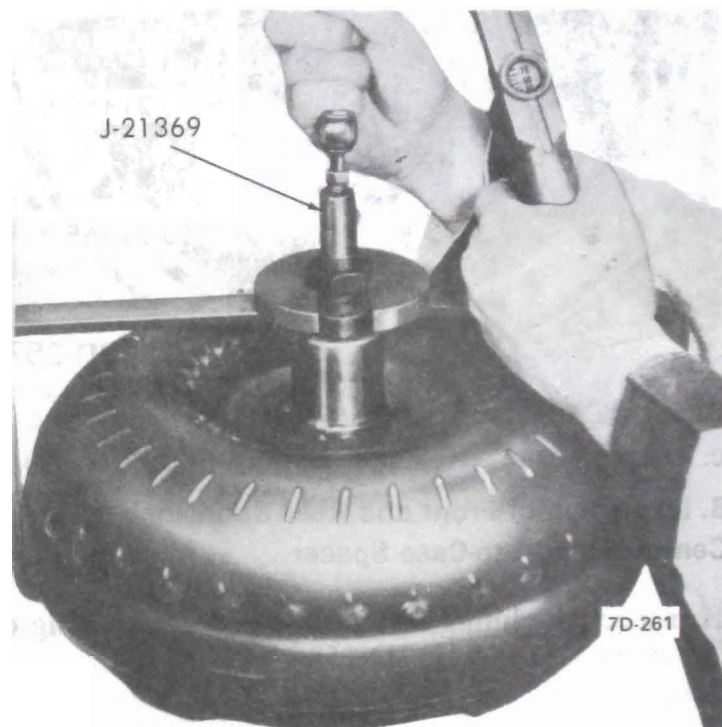

Figure 7D-261
1. Check converter for leaks as follows: (See Figure 7D-261.)